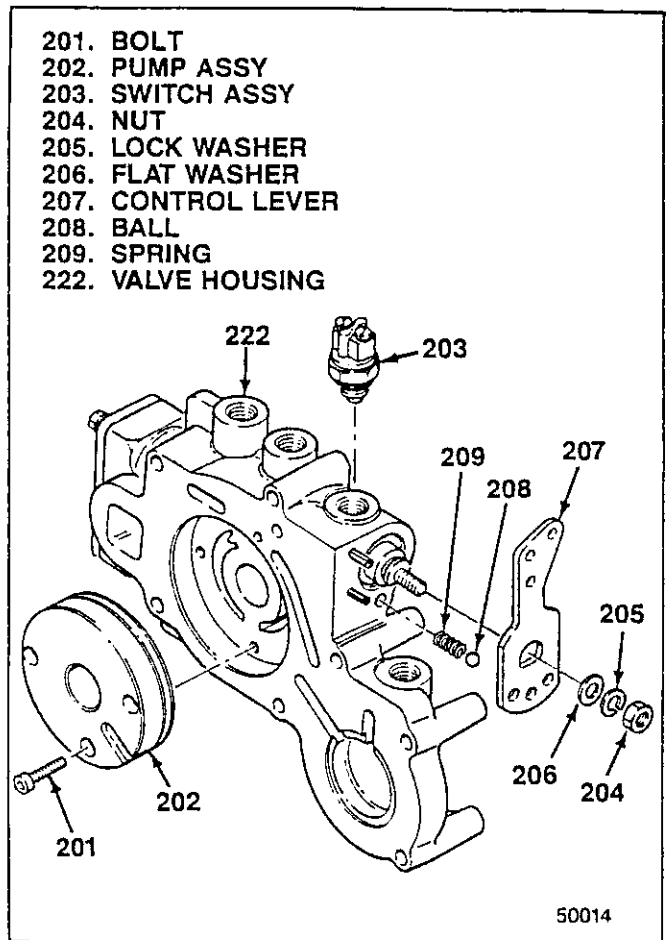

Figure 3-7. Pump, Switch and Control Lever
**3-14. REMOVAL OF PUMP, SWITCH AND CONTROL LEVER.** Proceed as follows (see figure 3-7):
1. Remove three bolts (201) and pump assembly (202). Do not disassemble pump assembly. It contains matched parts and must be replaced as an assembly if necessary.
2. Remove switch assembly (203).
3. Holding control lever (207) to prevent control valve (211) from turning and ball (208) and spring (209) from flying out, remove nut (204). Remove lock washer (205), flat washer (206), control lever (207), ball (208) and spring (209).